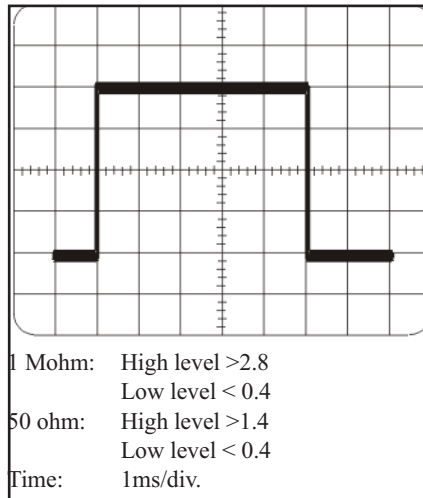

Figure 9-2 Signal on gate open output
- The Gate Monitor output should be a pulse similar to Figure 9-2.